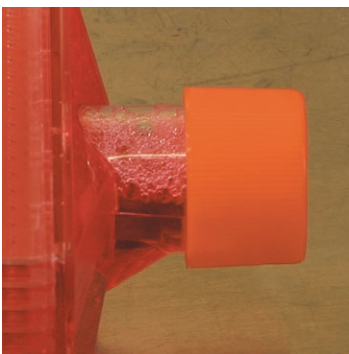

Figure 4. Placing the flask on end in the incubator and then lowering it slowly will keep any bubbles in the cap area.
6. Cap the flask tightly by ensuring that the cap is tightened past the detent feature. Move to the horizontal position with the angled neck of the flask facing down (Figure 4). Confirm that all bubbles remain contained within the neck.